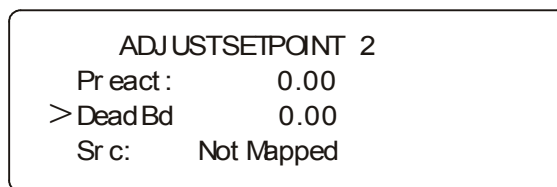

FIG. 3-15 ADJUST SETPOINT MENU/SETTING DEAD BAND
Step 10. Press the down arrow until the cursor is in front of Deadbeat (Dead Band). (See Fig. 3-15)